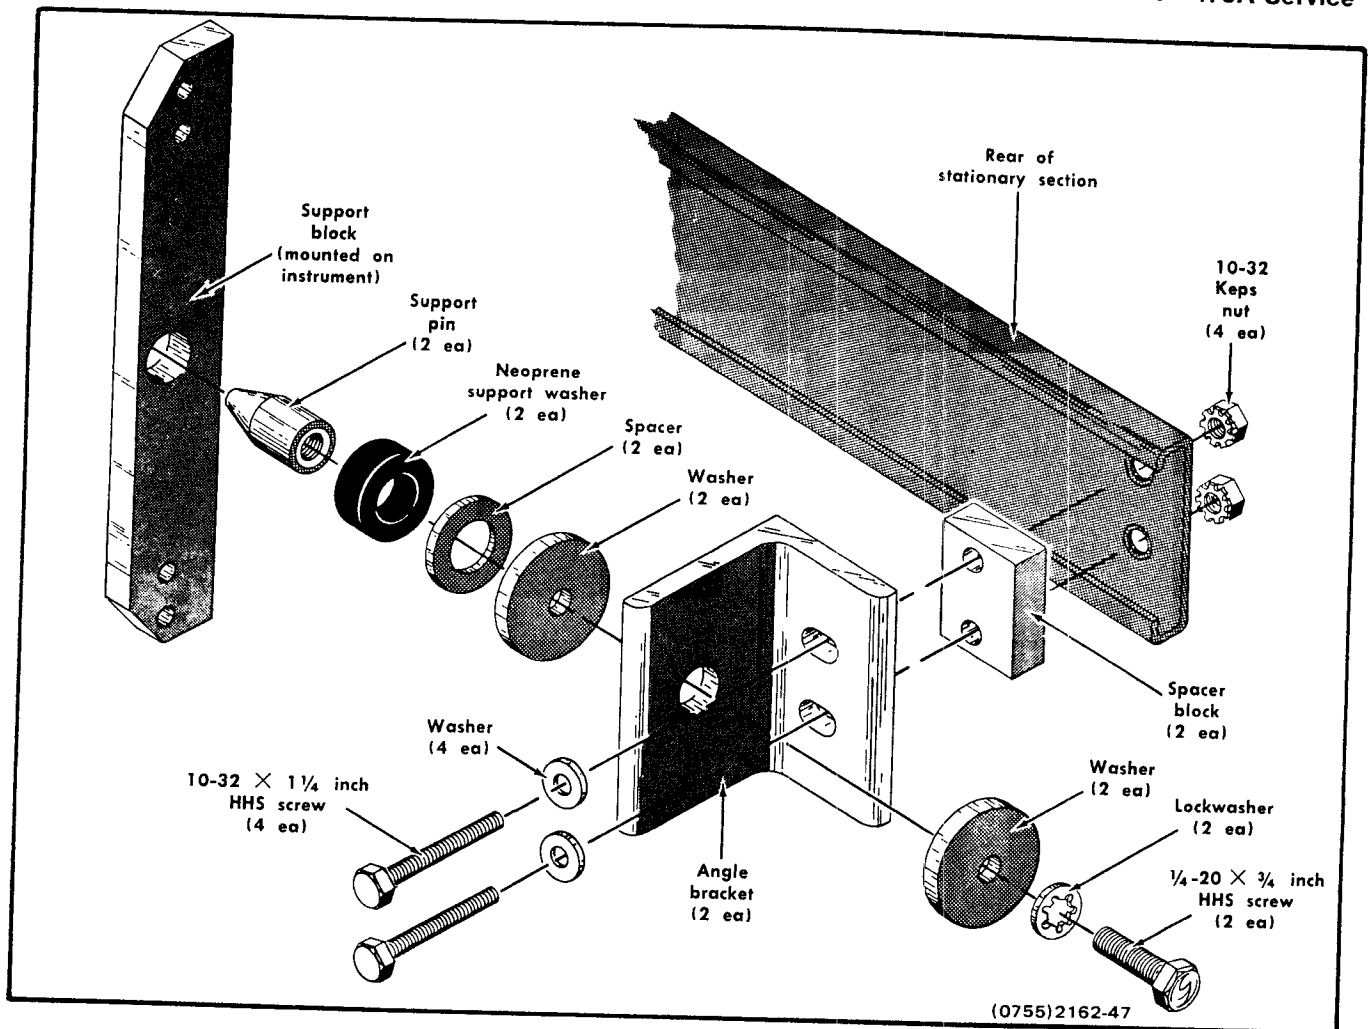

Fig. 4-12. Rear Support kit.
The following mounting procedure uses the rear support kit (see Fig. 4-12 and Fig. 4-13) to meet the environmental characteristics of the instrument (shock and vibration). Two alternative mounting methods are described at the end of this procedure. However, when mounted according to these alternative methods, the instrument may not meet the given environmental characteristics for shock and vibration.
3. Attach an angle bracket to both rear rails of the rack through the spacer block, stationary section and into the rear rail of the rack. Note that the holes in the spacer block are not centered. Be sure to mount the block with the narrow edge toward the front of the rack; otherwise, the instrument may not slide all the way into the rack. Do not tighten the mounting screws. Fig. 4-12 shows the parts in the rear support kit and the order in which they are assembled.
4. Assemble the support pin to the angle bracket in the order shown in Fig. 4-12. Leave the spacer (washer) off, but install the neoprene washer.